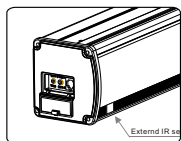

Figure 43
1. When nothing blocks the sight of IR window, you can use the controller to control the screen (Figure 43).